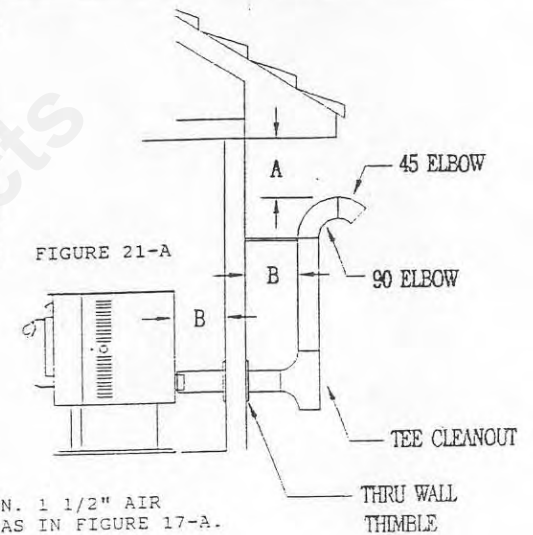

FIGURE 21-A
8. For an installation which goes through the wall, but not through the roof, you may want to elect to follow the configuration shown in figure 21-A. The outside vent run should run at least 5'. Also, piping should be supported every 5'.